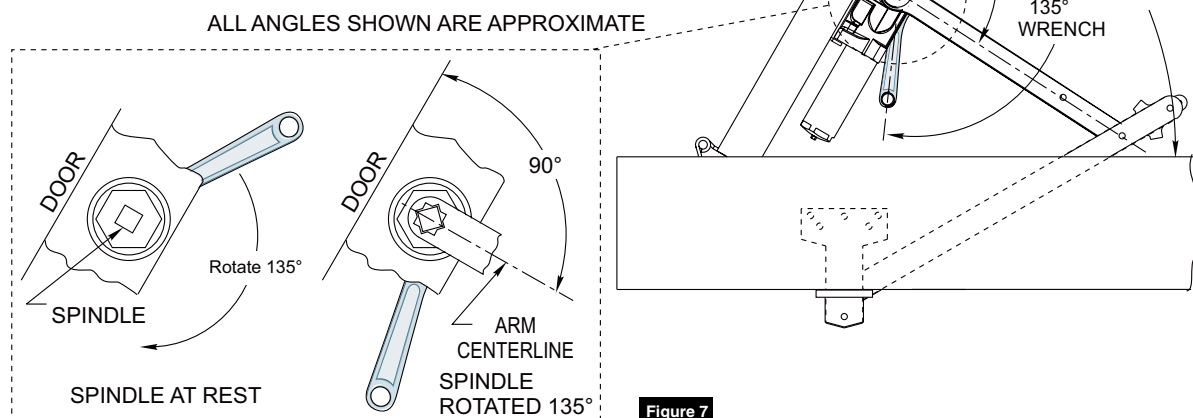

Figure 7
5. Connect Arm To Closer (Figure 7)